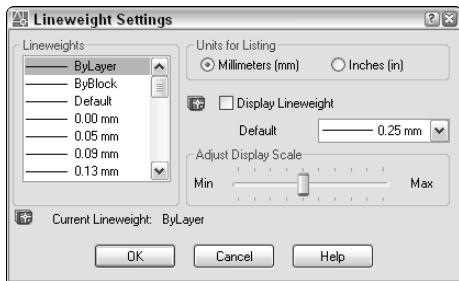

Figure 11-9: The Lineweight Settings dialog box lets you format how lineweights are measured and displayed.
- ♦ By default, lineweights are measured in millimeters. You can format lineweights by choosing Format ⇨ Lineweight. The Lineweight Settings dialog box opens, as shown in Figure 11-9. The Lineweights section lists available lineweights. Choose a default lineweight from the Default drop-down list. The default is 0.01 inch or 0.25 mm. The Adjust Display Scale slider determines how lineweights are displayed on the Model tab. Adjust this setting if you use several closely related lineweights but can't distinguish them on your screen. The Display Lineweight check box turns the display of lineweights on and off. (See the next bullet for an easier way to do this.)